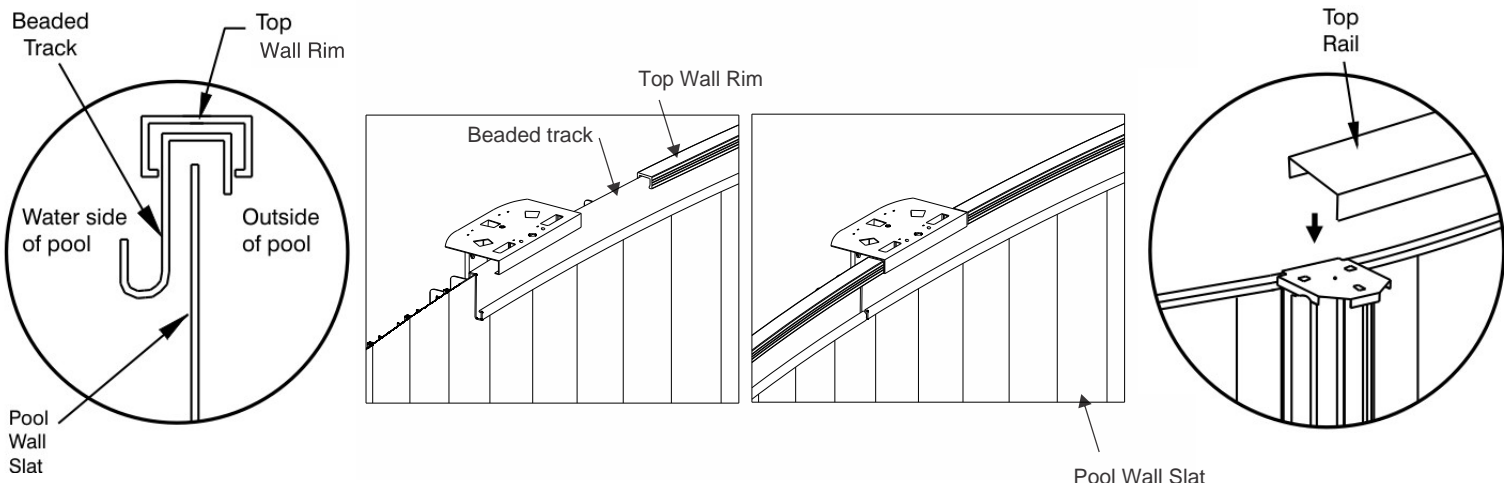

Fig. 53
**See Figure 53 for more images**